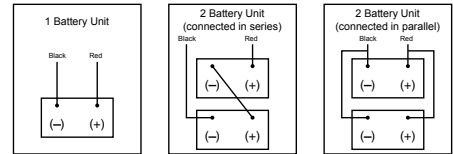

Figure 6
5. Install conduit bushing provided (Figure 6).